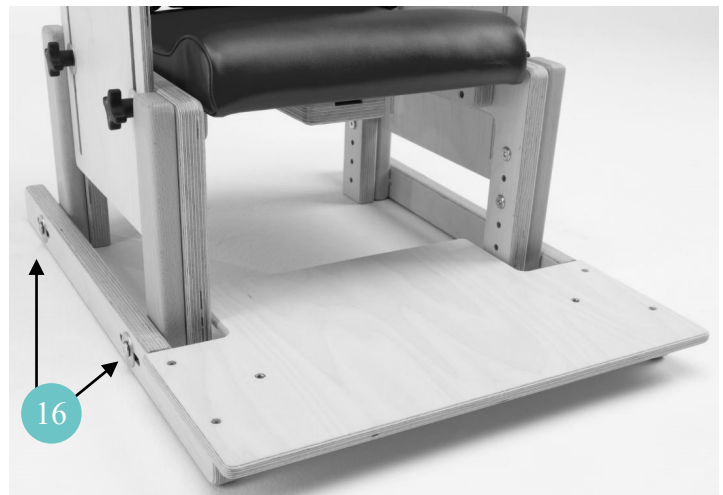

Figure 11
- The screws fit into the chair outriggers on each side of the chair (Ref. 16 of Figure 11).
- The footboard can be reversed by removing four screws (Ref. 16 of Figure 11), rotating the complete board and ski assembly and reattaching.